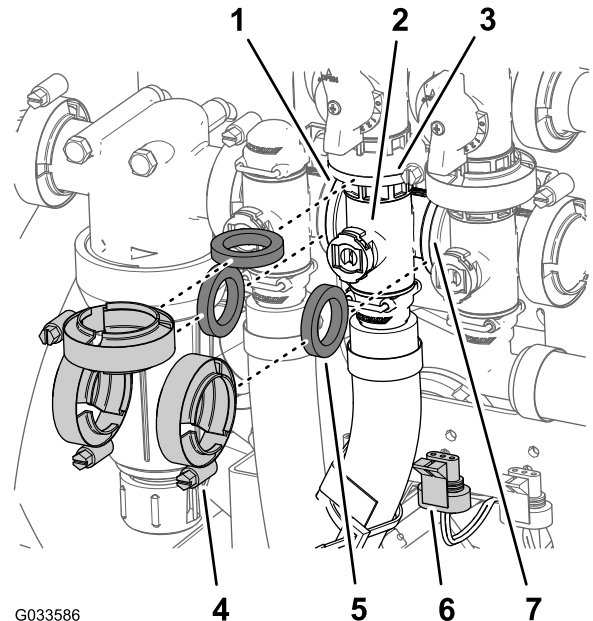

Figure 115
- Remove 3 flange clamps and 3 gaskets that secure the manifold for the agitation valve (Figure 115) to the agitation bypass valve, rate control valve, and master-boom valve.